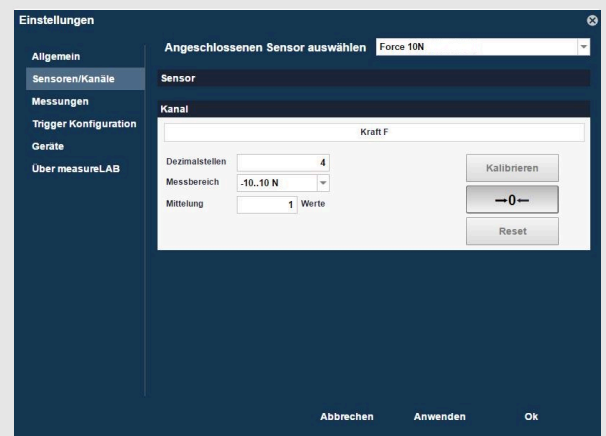

Fig. 4: Taring the Sensor.
- The sensor should show 0 in the digital display. If necessary, tare the sensor by opening the settings of the corresponding measurement channel and activating 0 (see fig. 4).